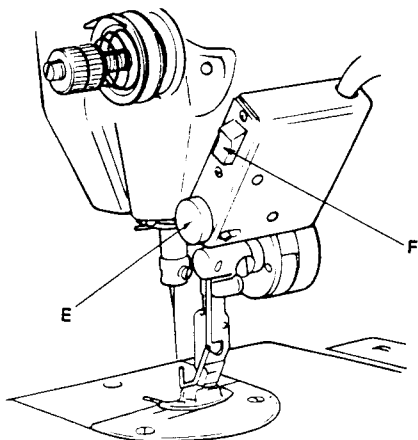

Fig. 41
- When push button **E**, Fig. 41 is depressed, the machine will immediately change from forward to reverse feed for back tacking and return to forward feed when released.
- Turn the wiper switch **F** off when sewing operation does not require the wiper. (Fig. 41)